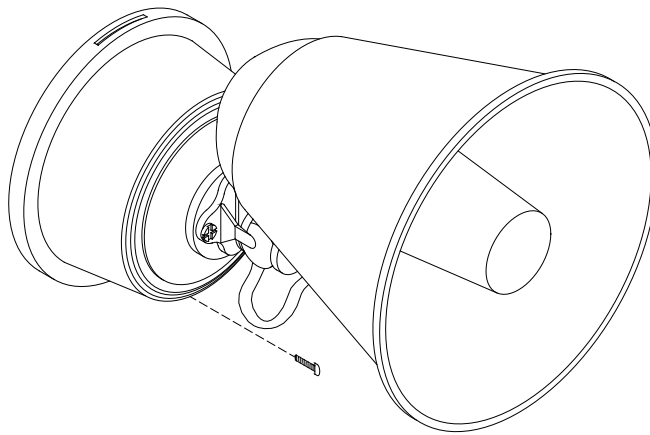

Figure 10 Horn Signal Mounting Plate Screw
10. Remove the horn signal mounting plate from the horn base by loosening the Phillips head screw on the base as seen in figure 10.